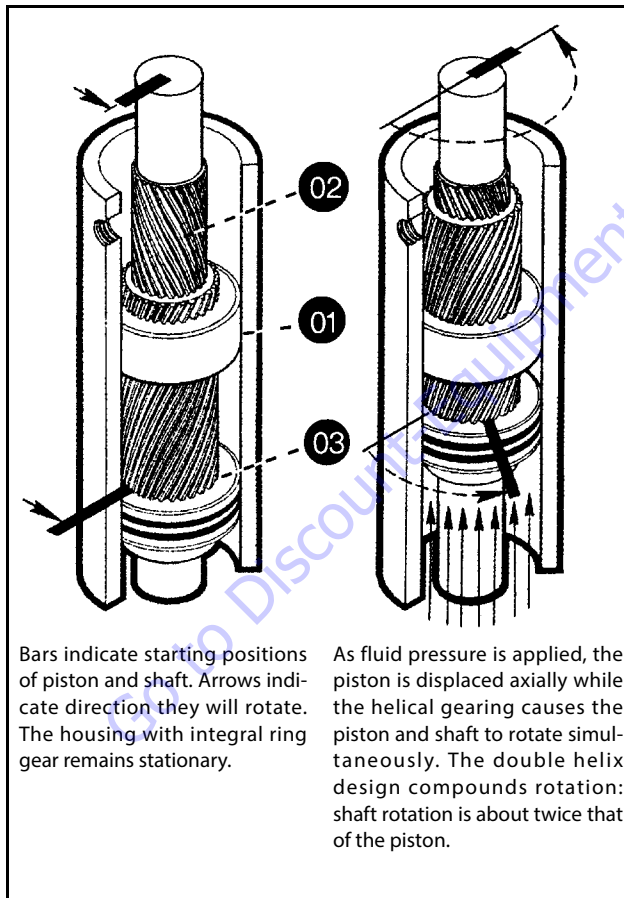

**Figure 4-53. Tower Boom Drift Test**
3. Using the control operations position the upper and jib booms at the maximum angle. The telescope cylinder must be completely retracted. Refer to Figure 4-53., Tower Boom Drift Test.
to *SYSTEM* and press enter . Record the *CHASSIS TILT* angle. NOTE: The displayed value for Tower Angle #1 and Tower Angle #2 should be between 10.0° and 12.5° (see Figure 4-53., Tower Boom Drift Test).